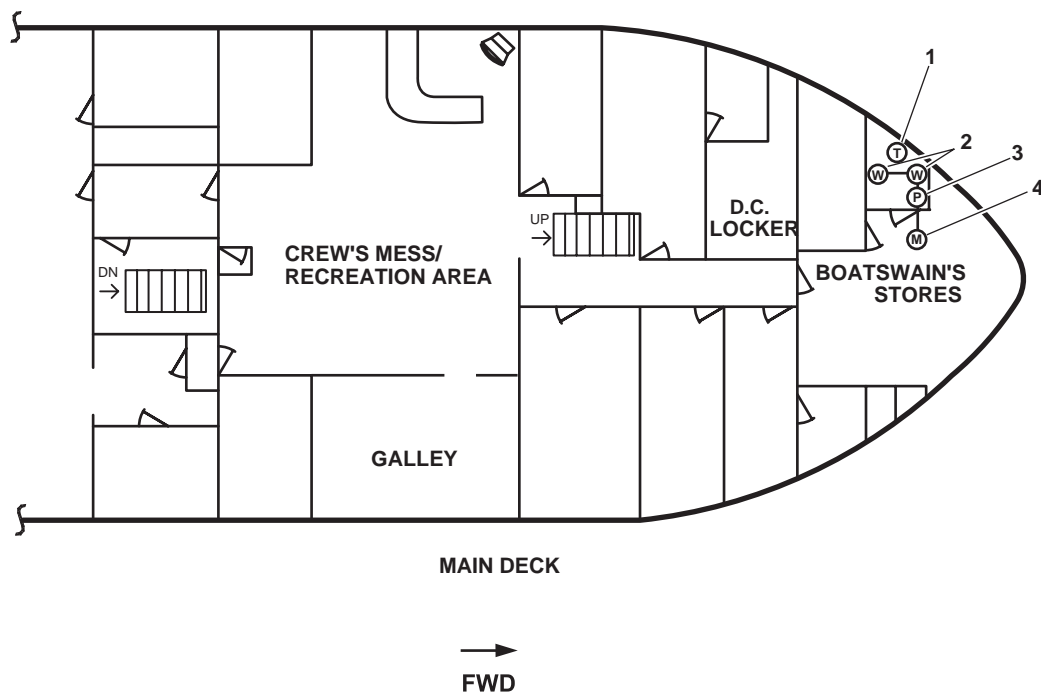

Figure 10. Arms Locker Drenching System
1. Thermal Seat Detector (figure 10, item 1). This detector is activated at 105 °F and sounds an alarm in the pilothouse.
2. Sprinkler Heads (figure 10, item 2). These two sprinkler heads provide raw water to the arms locker after the manual activation valve has been OPENED.
3. Pressure Switch (figure 10, item 3). This switch sends an alarm to the pilothouse once the sprinkler heads have been activated.
4. Manual Activation Valve (figure 10, item 4). This valve controls the supply of raw water to the arms locker. The valve can be operated from the boatswain's locker (local) or from the 01 level (remote) by the use of a reach rod valve system.